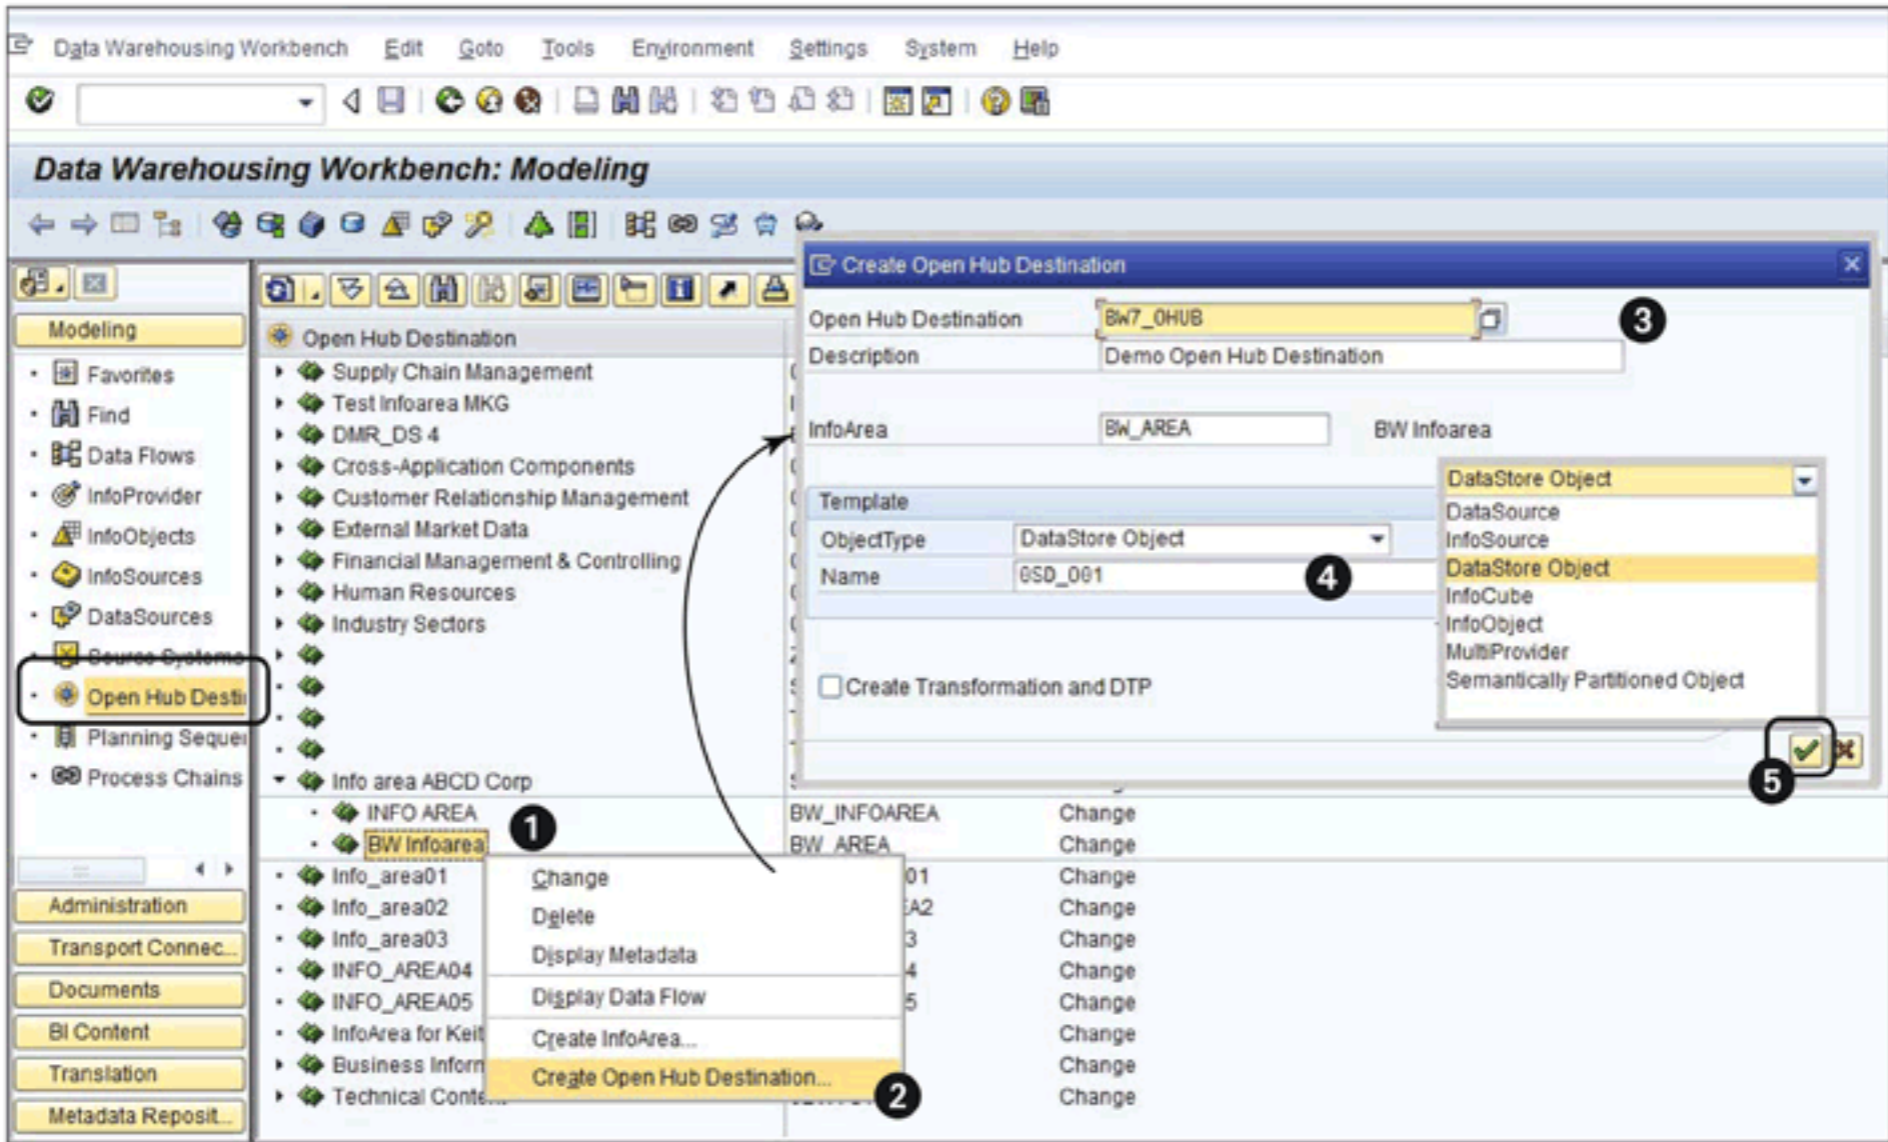
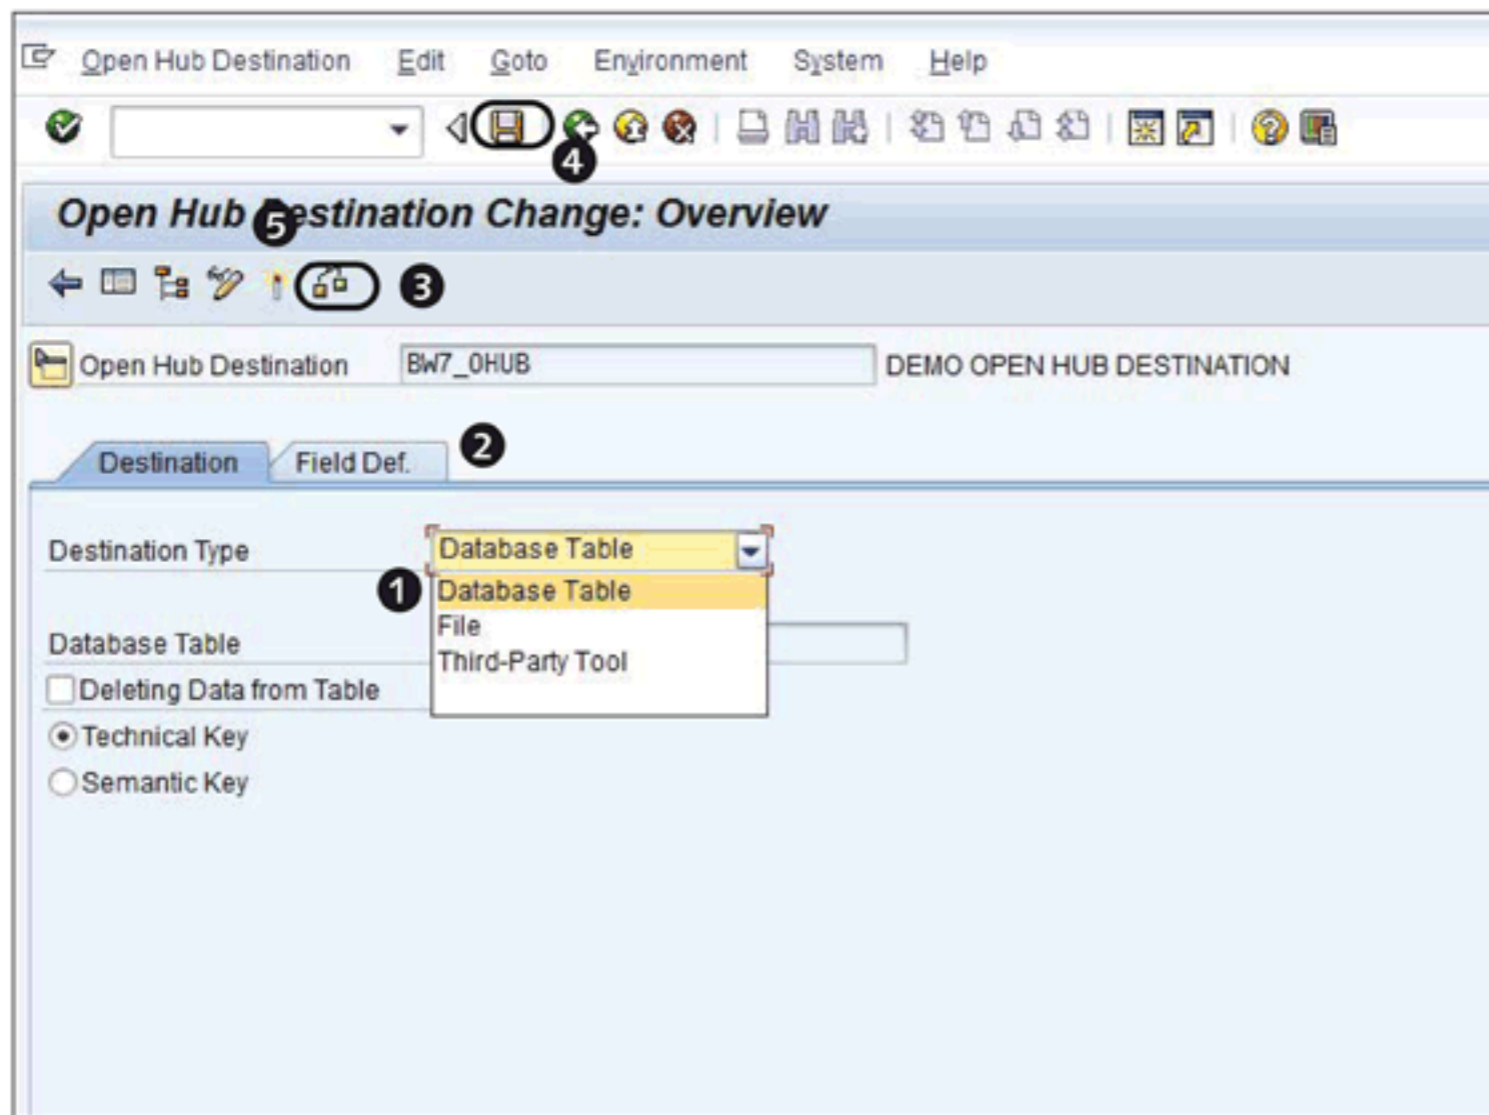

Figure 15.2 Create Open Hub Destination
Figure 15.3 Define OHD
Using the Open Hub service, you can transfer data from SAP NetWeaver BW InfoProviders to different destinations in either *full mode* or *delta mode*. The destination from where data is extracted is known as the *Open Hub destination (OHD)*. An OHD is created and maintained in the DWW, under the MODELING section (❶ of Figure 15.2). The InfoArea tree is displayed on the right panel of the screen.
To create an OHD, select CREATE OPEN HUB DESTINATION from the context menu of the InfoArea where you want to create it (2 of Figure 15.2). A pop-up box appears for entering the technical name and description of the OHD (3). To reduce development time, you can also use the object from which you are going to load data as a template to create the OHD definition (4). Click on OK to continue with the OHD creation (5). The detailed OHD definition is maintained on the screen shown in Figure 15.3.
The Open Hub service allows you to transmit data to various destinations. On the **DESTINATION** tab (1 of Figure 15.3), you can define the destination where the data needs to be sent.